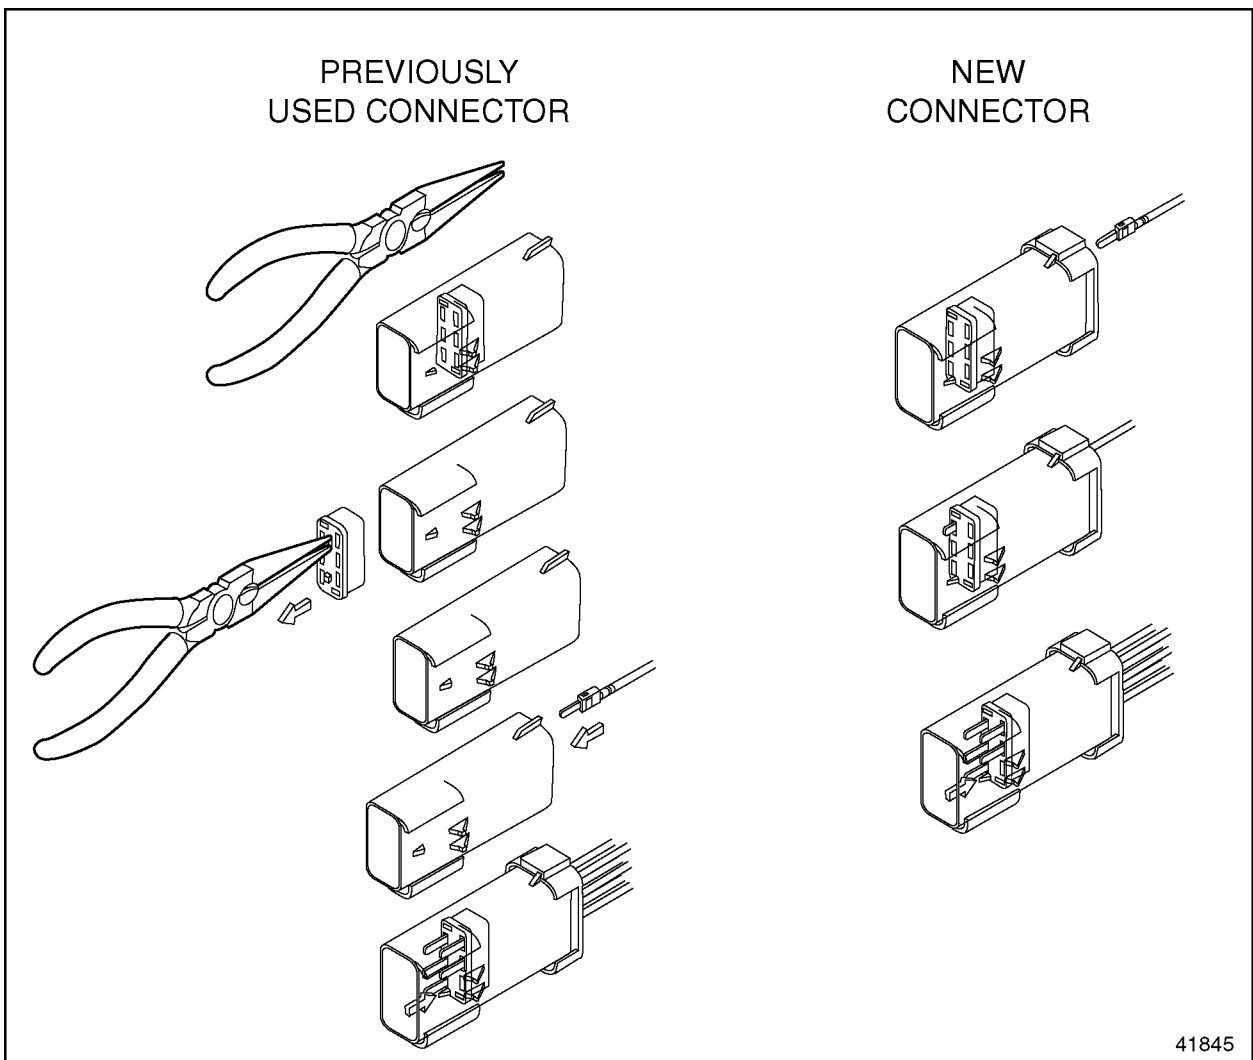

Figure 3-25 Installing the FCI Male Terminal
- [b] If the connector is used, pull the TPA out (see Figure 3-25).
2. Insert the crimped terminal into the connector until it clicks (see Figure 3-25). The orientation of the terminal is not critical.